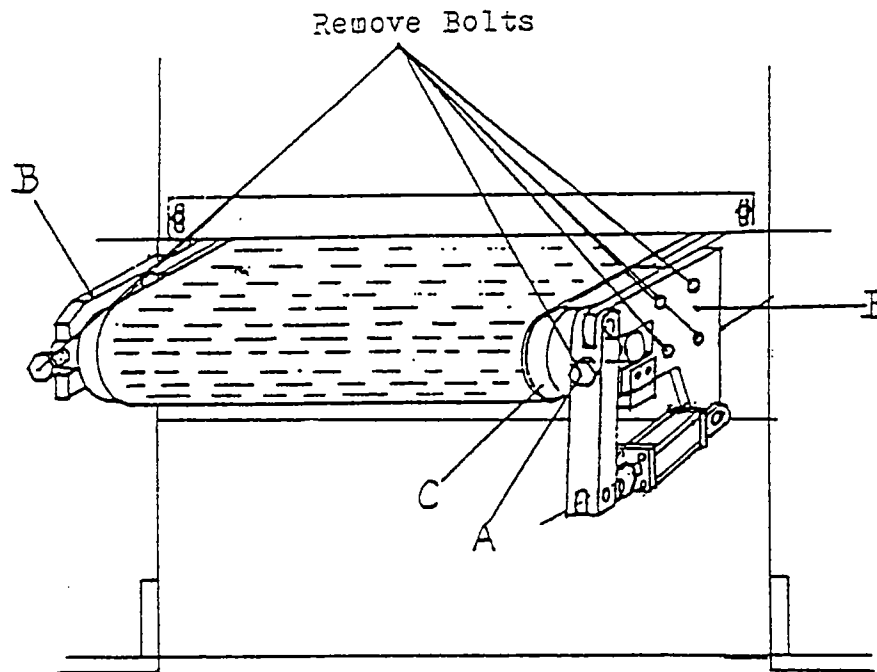

FIG. 2
- C. Remove safety guard (fig.1-1) and unscrew conveyor tension bolts (fig.2-A & B).
- D. Take off left and right hand support plates of the front feed roller (fig.2-B) and remove the roller (fig.2-C).